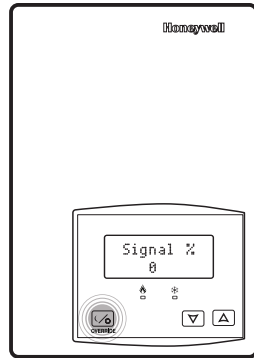

Fig. 2. Press the left (red) button.
3. Press and hold the Override button for five seconds, as shown in Fig. 2, until **Com addr** displays on the LCD.